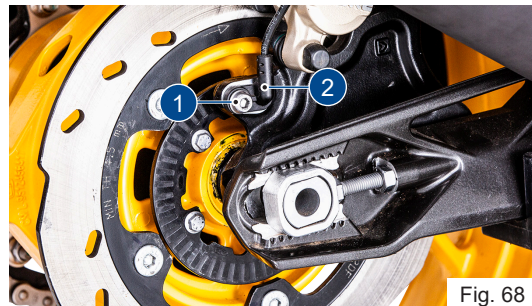

Fig. 68
- Remove the mounting screw (1) from the speed sensor mounting and carefully take out the speed sensor (2) (**ref. Fig. 68**).
- Assemble the speed sensor (2) and mounting screw (1) in rear caliper (ref. Fig. 68).